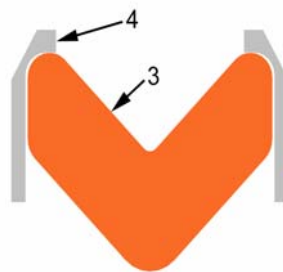

Figure 4
2.7 Start with Segment #1; install the Segment (item #5) into the Charge Rails with the inner angle first until it contacts the internal step. The Segment should fit next to the Spring and between the Charge Rails with the inner angle facing outward, see Figure 4.